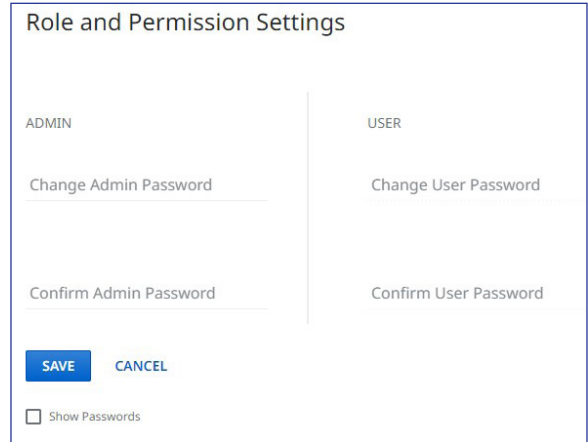

Figure 40. Passwords Dialog Box
2. In the **Admin** panel, click the **Change Admin Password** link and enter the new administrator password in the field below (see **figure 40** on page 45).